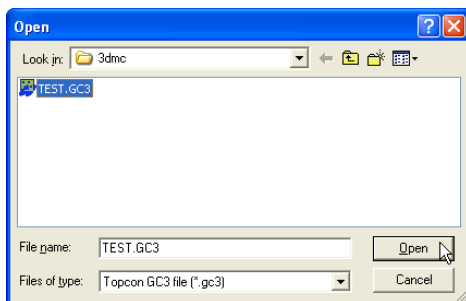

Figure 9-1. Open 3D Control Point File
2. On the *Open* dialog box, navigate to the location of the desired file, select it, and click **Open** (Figure 9-1). The information from the selected file is added to the 3D Project file.